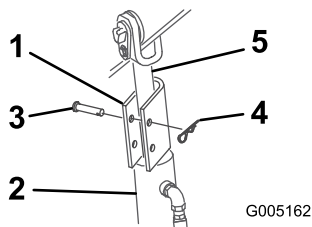

Figure 12
4. Position a loader arm cylinder lock over each lift cylinder rod (Figure 12).
5. Secure each loader arm cylinder lock with a clevis pin and cotter pin (Figure 12).